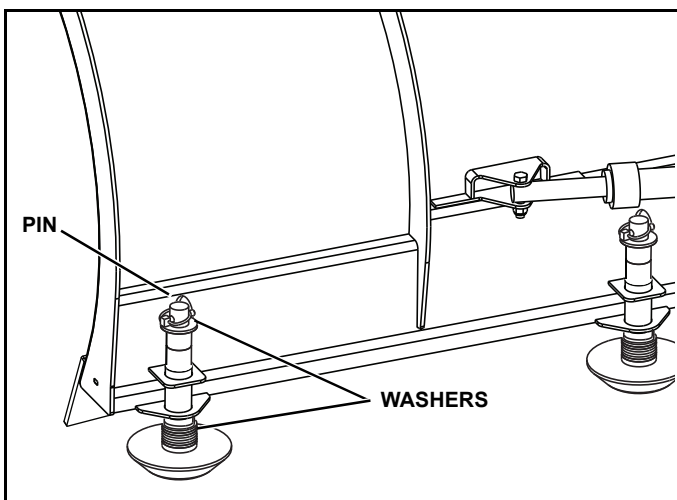

Figure 2-7
4. Adjust shoe assemblies by removing shoe mounting lynch pin and adding or subtracting washers on the top or bottom of the shoe-mounting bracket. (See Figure 2-7.)